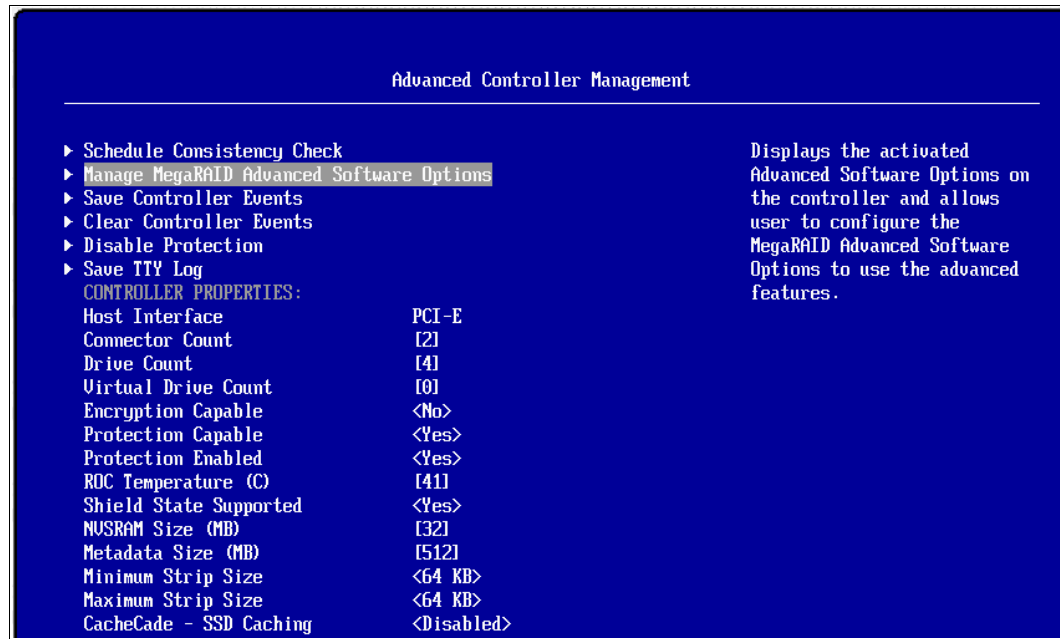

Figure 5-21 Advanced Controller Management panel
4. From the Advanced Controller Management menu, select **Manage MegaRAID Advanced Software Options**, as shown in Figure 5-21 on page 91.